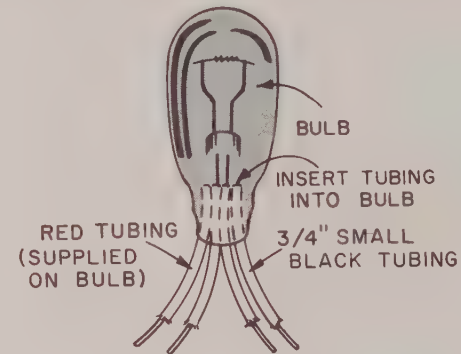

FIGURE 31. PREPARATION OF I-1 AND I-2
- ☐ I-1 and I-2, large bulbs with four leads. Notice that two of the leads are covered with red tubing. This tubing **MUST** remain on these leads. Separate the four leads and slip $\frac{3}{4}$ " of small black tubing over the uncovered leads, as shown in Figure 31.